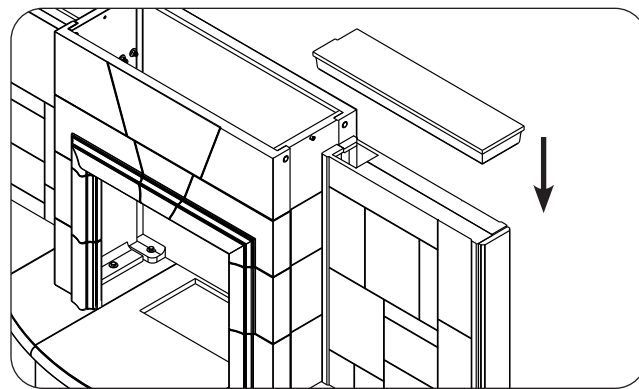

Fig. 26-4 Assemble top side-wall (skip if n/a)
5. Slide the top side-wall piece onto the front and rear side-walls as shown in Fig. 26-4 (no hardware required). This will secure the entire side wall.